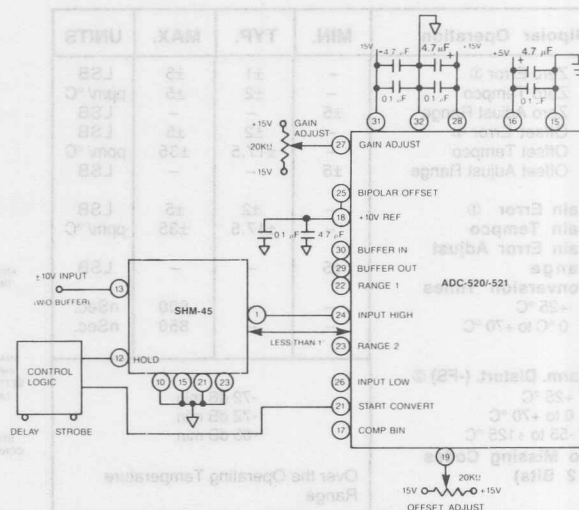

Figure 3. ADC/SHM Connection Diagram
1. Connect the converter per Figure 3 and Tables 2a and 2b for the appropriate full-scale range (FSR). Apply a pulse of 50 nanoseconds minimum to the START CONVERT input (pin 21) at a rate of 500 KHz. This rate reduces flicker if LED's are used on the outputs for calibration purposes.